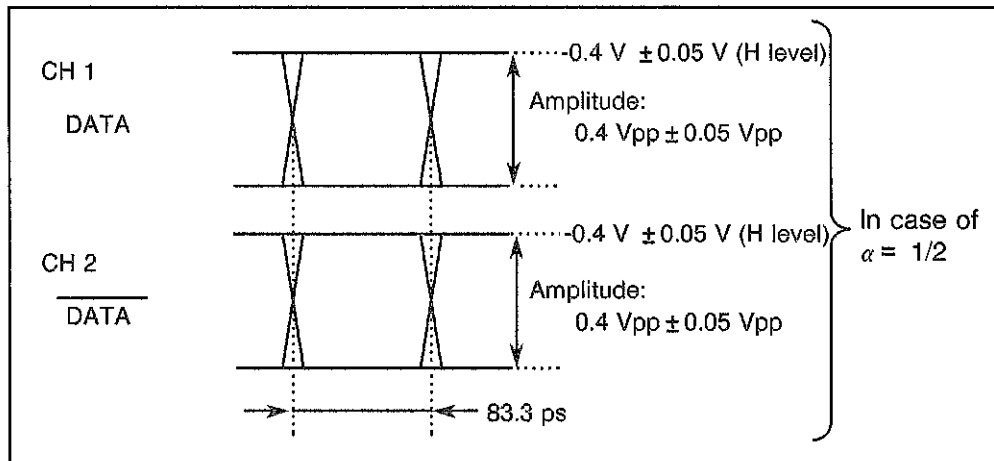

Figure 8-15 DATA,  $\overline{\text{DATA}}$  Output Waveform (TO -2V,  $f = 12000$  MHz)
- (8) Confirm that the waveform is eye patterns as shown in Figure 8-15.